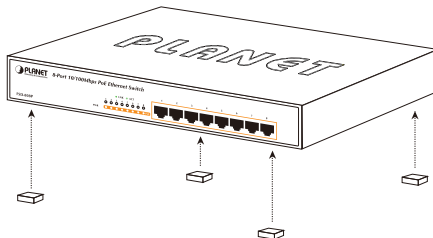

Figure 3-1: Attaching the Rubber Feet to the PoE Fast Ethernet Switch
Step1: Attach the rubber feet to the recessed areas on the bottom of the Switch, as shown in Figure 3-1.